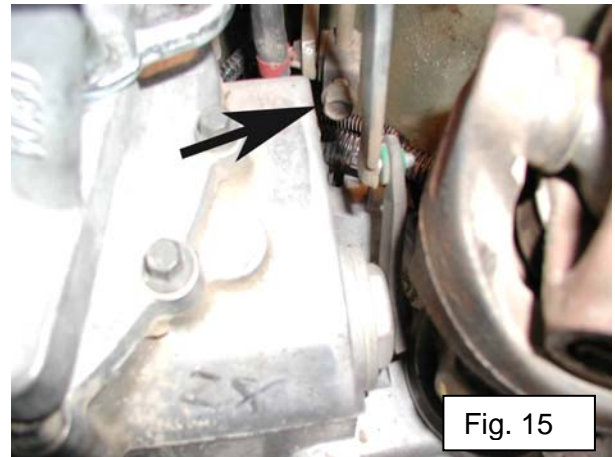

Fig. 15
Step 15: Adjust T-case linkage. Even though the t-case linkage relay rod position has been corrected for the TT installation, you will still need to re-adjust the linkage for proper t-case shifting. Begin by loosening the ½"-headed lock screw on the upper link (the one attached to the lever coming from the handle inside the Jeep – see **figure 15**) – make sure that it slides easily on the rod. Next, manually shift the t-case into 4-Low by pushing the t-case-mounted lever all the way to the back (you may gently confirm that it is engaged by starting and running the Jeep a few feet – but no driving! Make sure the in-cab lever is in the 4-Low position, but has some clearance to the back of the plastic bezel, then re-tighten the lock screw. You can confirm proper shifting after the install is complete and repeat this procedure if necessary.